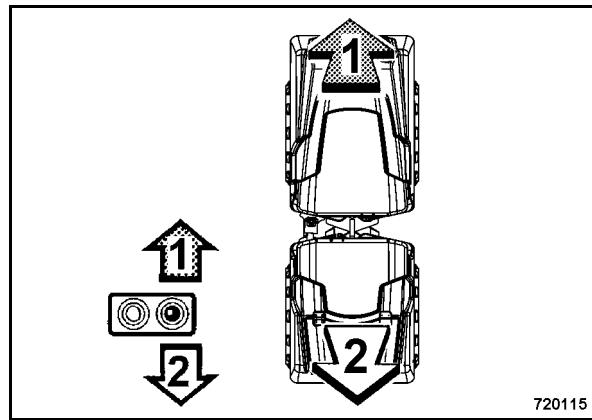

Fig. 40
- Actuate the travel lever (Fig. 40).